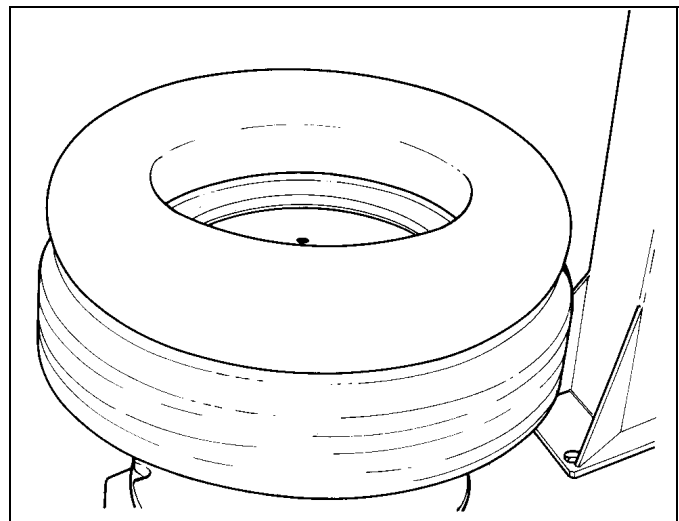

Fig.23
**B.** Confirm that the tube is designed for tires(Fig.23).